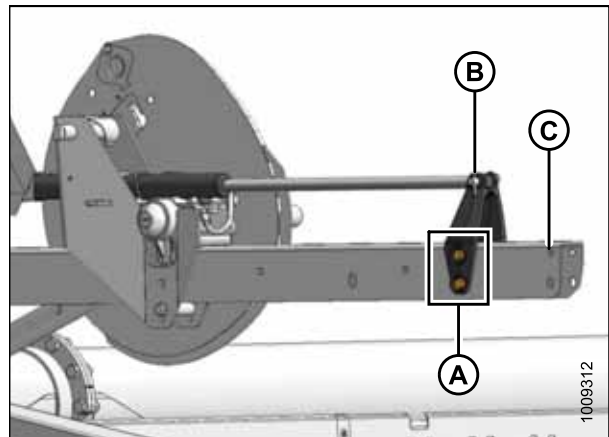

Figure 3.41: Rearward Position
- Rearward position, refer to Figure 3.41, page 64
3. Reinstall the four bolts (A) to secure bracket to reel arm at new position.